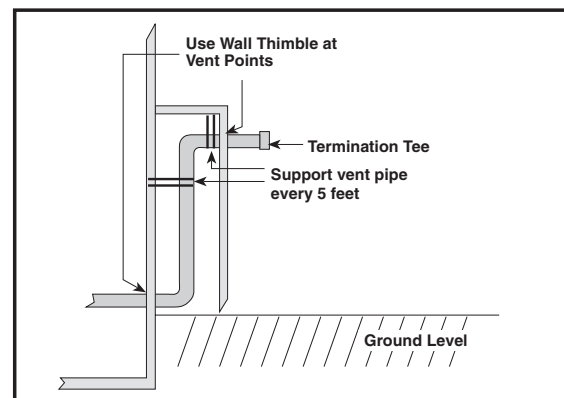

Figure 14. Alternate Horizontal Vent Installation
1. The termination tee must be 12 inches above snow level or grade level which ever is higher. See Figure 14 for alternate method to achieve 12" above snow level.
combustible wall requires the use of a wall thimble. (See Figure 14.) A 6-1/2 inch square framed opening is required to insert the thimble halves. The thimble is adjustable to varying wall thickness and is held in place by applying sealant to the male sleeve before assembly. Also run a bead of sealant around the outer wall thimble.